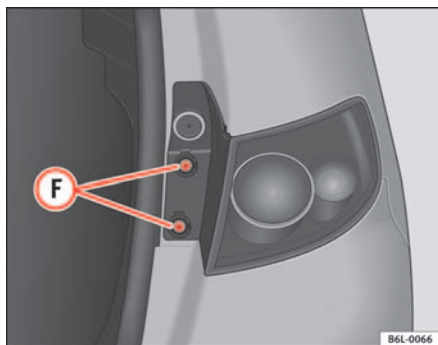

Fig. 157 Rear lights on the bodywork
- Unscrew the bolts **F** ⇒ fig. 157 with the flat part of the screwdriver.